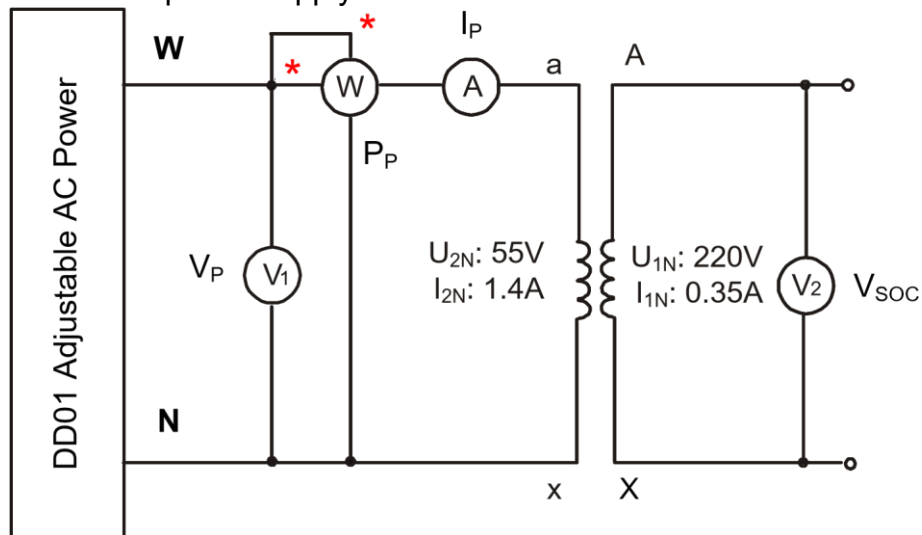

Figure 2: Experiment 1 Setup
The experimental setup for this experiment is shown on figure 2. The Turns Ratio can be calculated by measuring the Open Circuit Secondary Voltage (V_{SOC}) at a given Primary Voltage (V_P) and then using the voltage ratio (V_P/V_{SOC}) to calculate the turns ratio.
2. Select one single-phase transformer on Module DJ11, whose nominal parameters are $P_N=77V \cdot A$, $U_{1N}/U_{2N}=220/55V$, $I_{1N}/I_{2N}=0.35/1.4A$. Connect the power supply, meters and transformer as shown in Figure 2, where secondary side of the transformer is open circuit.
For the circuit shown in Figure 2, repeat the test outlined in Experiment 1 but this time record primary voltage (V_P), primary current (I_P) and primary real power (P_P). From test results and above equations determine values for R_C and X_M :